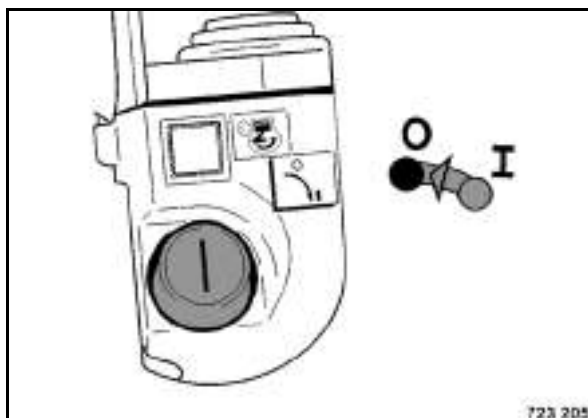

Fig. 54
- Turn the ignition switch (Fig. 54) to position "0".